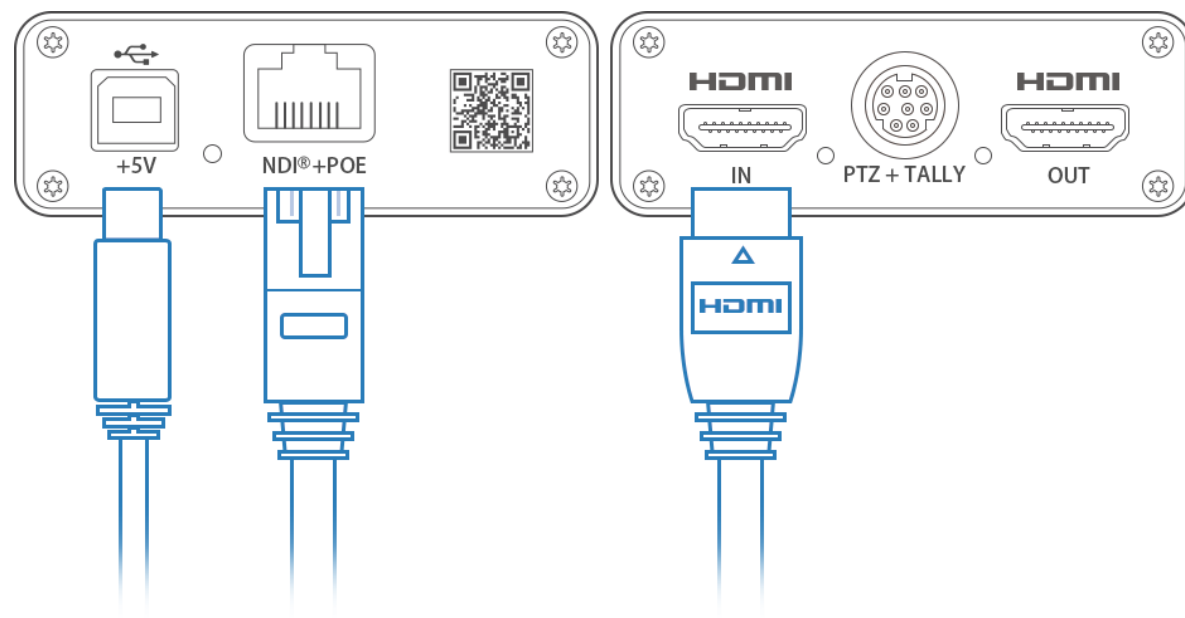

Figure1. Connections
- Step 1** Connect your converter via Ethernet and power it up as shown on the left Figure1. Connections.